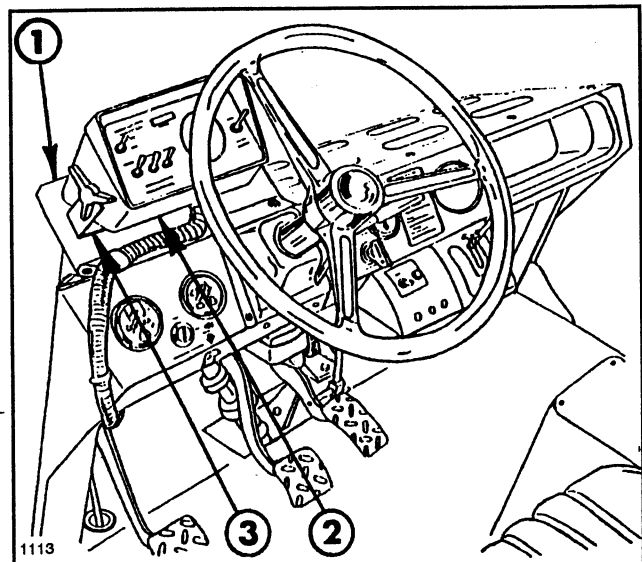

FIG. 5
3. Temporarily mount the console mounting bracket to the upper dash support using two of the earlier removed screws and washers (FIG. 5).
4. Using (2) 1/4" x 5/8" hex washer head screws, flat washers and nuts, secure the "U" shaped console bracket to the console mounting bracket. Mount the console to the "U" shaped bracket using the (2) mounting knobs (FIG. 5).